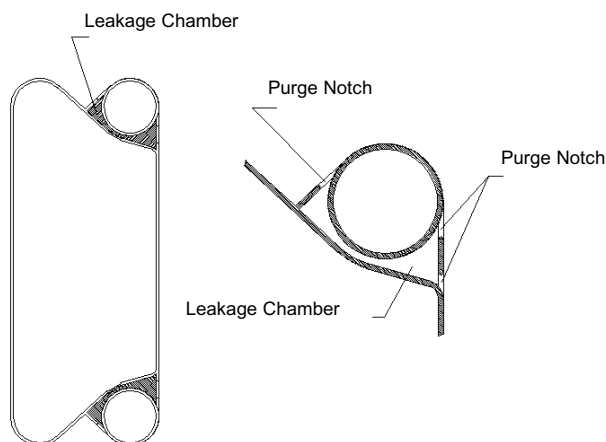

Figure 1.6 Corner Gasket Leakage Chamber
- All gaskets have a double safety feature to prevent fluid intermixing. The isolated port has a double retaining gasket, which forms a leakage chamber. This leakage chamber is connected to the atmosphere by three notches in the gasket. (See Figure 1.6 Below.)